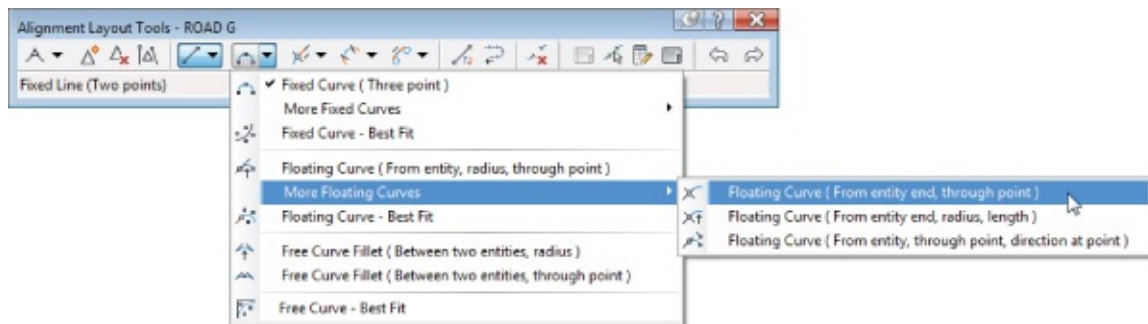

Figure 6.12 Selecting the Floating Curve tool
16. Click the down arrow next to the Add Fixed Curve (Three Point) tool on the toolbar, and select `More Floating Curves > Floating Curve (From Entity End, Through Point)`, as shown in Figure 6.12.